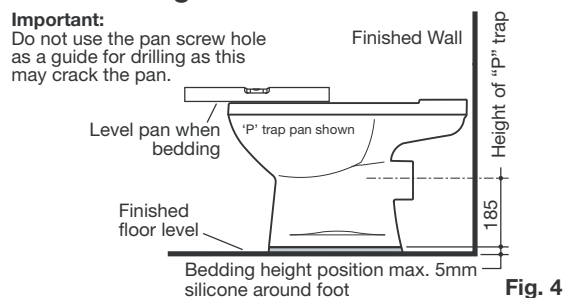

Fig. 4
Important: Use only Caroma performance approved offset pan connector. Code No: 687270. The 40mm optional off set connector is available to help achieve the set out of 140mm on existing installations, where the soil pipe is between 100mm min. and 180mm max. set out ranges specified for connector, as detailed in Fig 4. **(sold separately).**
- 1- Position pan onto pan connector and locate the cistern onto the pan, checking that the cistern aligns with the finished wall. Adjust pan position if necessary and mark location of pan fixing holes on the floor. Remove the cistern and pan, as detailed in Fig. 4.